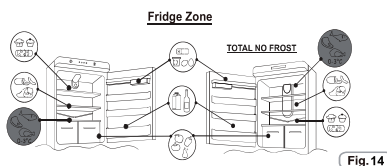
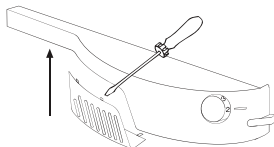

Fig.14
Fig. 21
- To maintain the best flavour, nourishment and freshness of foods, it is advisable to store them in the refrigerator compartment as shown in fig.14 below, making sure to wrap them in aluminium or plastic sheets or in appropriate covered containers to avoid cross-contamination.
To replace the lamp bulb, place the thermostat knob on 0 and disconnect the power cord. Remove the protective cover (fig. 14), replace the bulb with a power rating analogous with that indicated on the protective cover.(Fig.21)